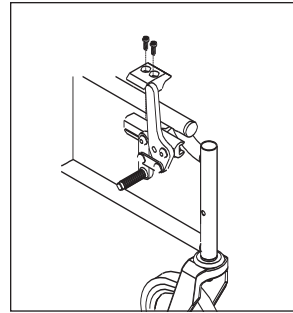

Figure 13
1. Push-to-Lock Wheel Locks Adjustment (Fig. 13)